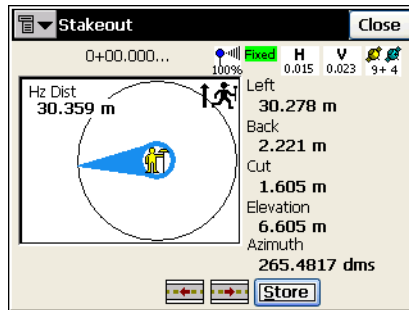

Figure 7-20. Stakeout
- For GPS+: use the information on the *Stakeout* screen for finding the target. Tap **Store** after the position is close enough to the desired point (Figure 7-20).